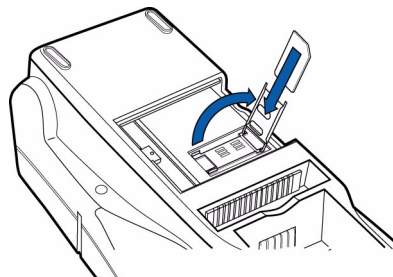

Figure 15 Insert SIM Card into Cardholder
- 3 Open the SIM card holder and slide the SIM card supplied by your provider into the cardholder (Figure 15).
The SIM cardholder has a notch on one corner to ensure the SIM card is positioned correctly. The SIM card has a notch on one corner for easy orientation in the cardholder. Before inserting the SIM card, position it as shown in Figure 15, with the card's gold contacts facing down.